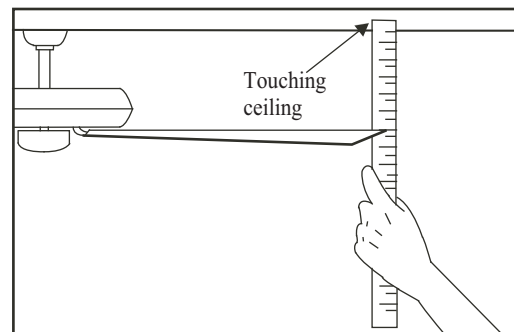

Figure 19
2. Most fan wobbling problems are caused when blade levels are unequal. Check this level by selecting a point on the ceiling above the tip of one of the blades. Measure this distance as shown in Fig. 19. Rotate the fan until the next blade is positioned for measurement. Repeat for each blade. The distance deviation should be equal within 1/8".